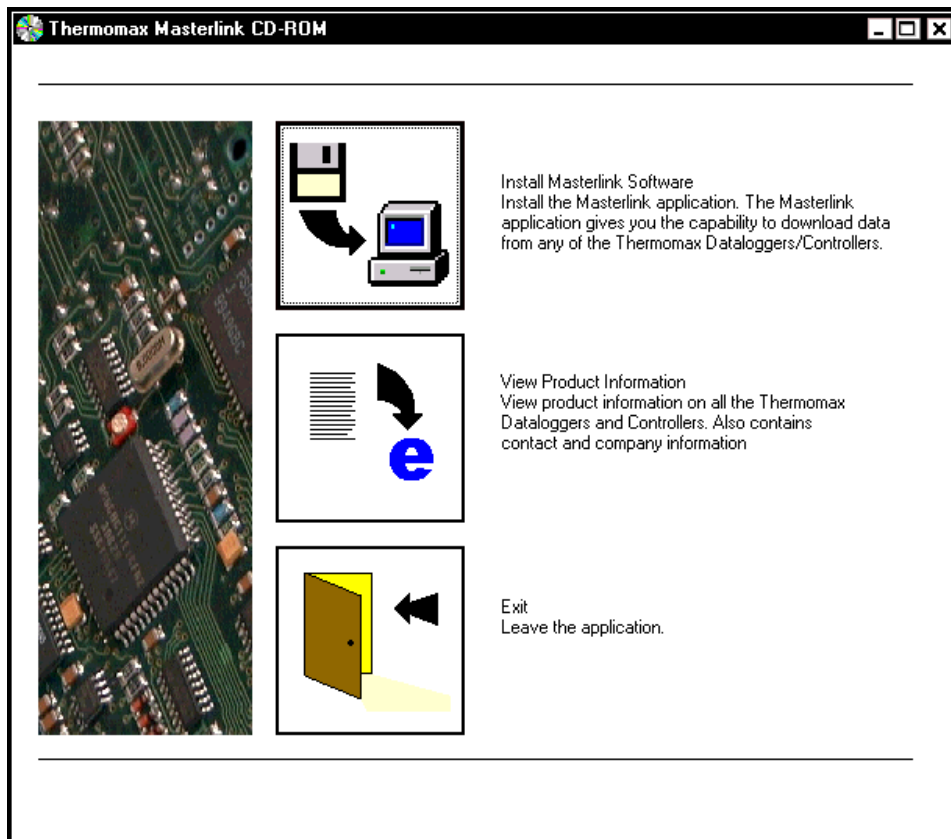

Figure 1.2 Commence Installation
4. The following dialogue box, Figure 1.2, will appear: